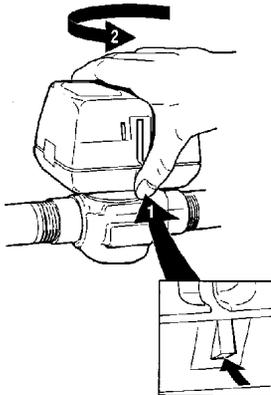

Figure 3: Actuator Head Removal.
4. The actuator head is automatically latched to the valve. To remove, press up on the latch mechanism located directly below the red manual open lever with thumb (See Figure 3 below). Simultaneously press the actuator down towards the body with moderate hand force and turn the actuator counter-clockwise by 1/8 turn (45 degrees). Lift actuator off the valve body.